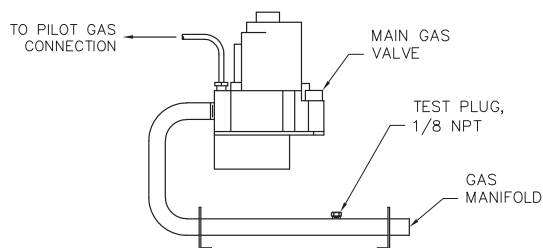

Figure 5.2: Gas Train Manifold 63-03L Through 63-06
- Typical gas train manifolds are illustrated in Figure 5.2 through 5.4.